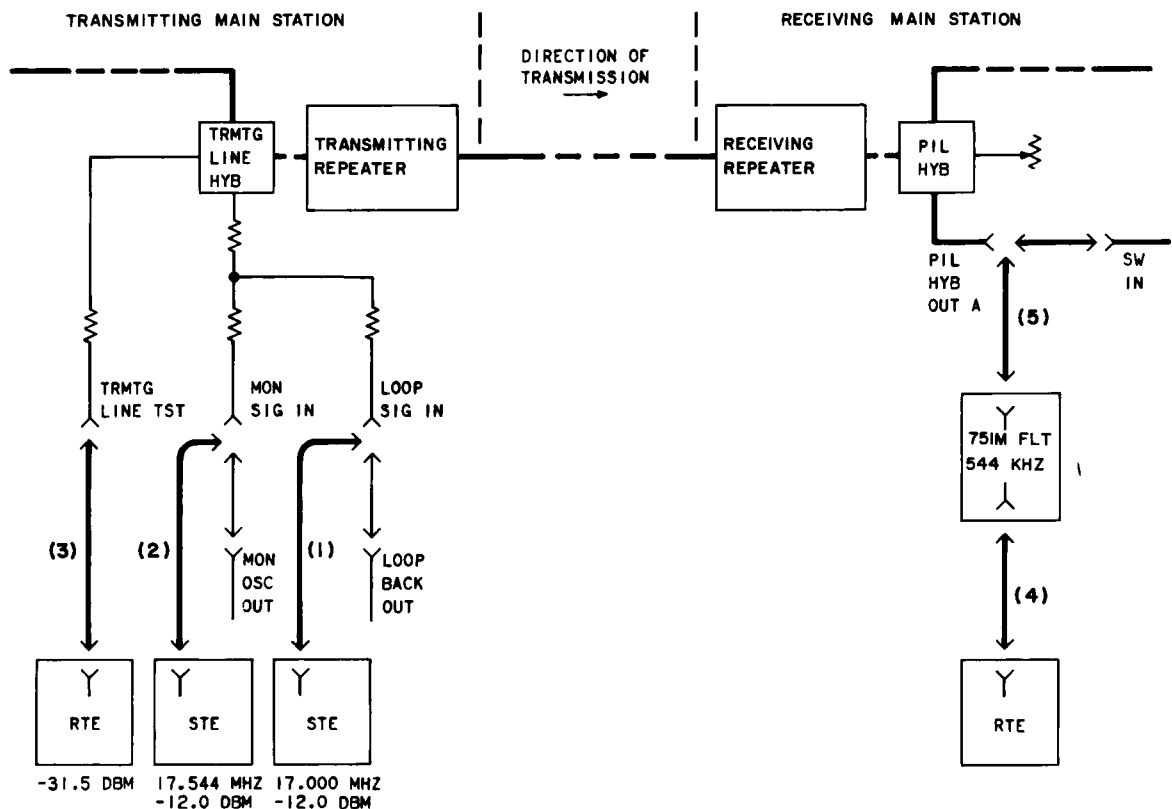

Fig. 4—Test Arrangement for Intermodulation Noise Measurement
Two signals, 17.544 and 17.000 MHz, are inserted at the transmitting main station. The 544-kHz intermodulation noise power is measured at the receiving main station. The test arrangement is shown in Fig. 4.
3	Connect the STE output signals to the MON SIG IN and LOOP SIG IN jacks [patches (1) and (2), Fig. 4].
4	Measure the power of the 17.544-MHz and 17.000-MHz test signals at the TRMTG LINE TST jack [patch (3), Fig. 4]. Requirement: Each test signal: -31.5 dBm. Note: These test signals are 10 dB above transmission level.
8	Connect the PIL HYB OUT A jack to the 751M filter input, and connect the filter output to the RTE input [patches (4) and (5), Fig. 4].